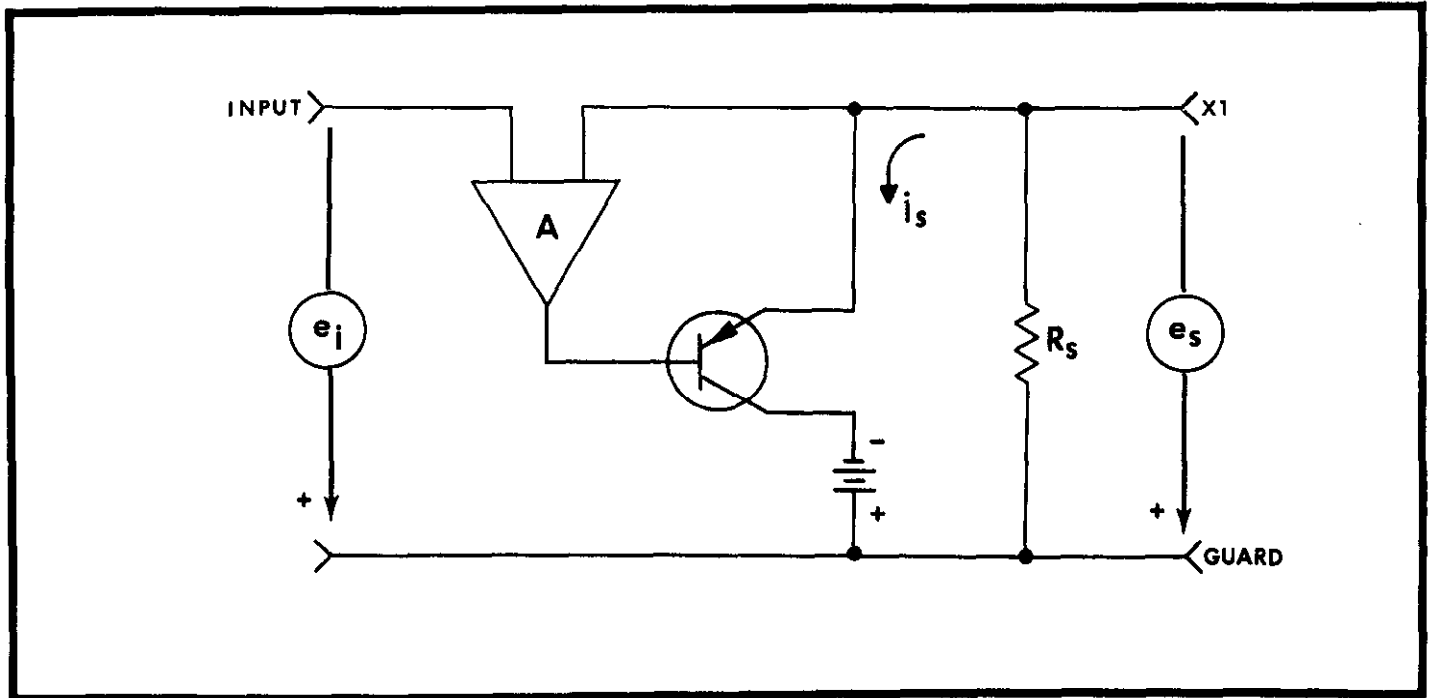

FIGURE 11. Unity-Gain Amplifier.
b. The Electrometer amplifier is connected as a unity-gain, voltage-to-current converter configuration. Refer to Figure 11 for a simplified diagram of the unity-gain amplifier in the Normal Mode. The Sensitivity selection circuitry is arranged such that a full-scale input voltage (e_i) results in a 1 milli-ampere output current through the Sensitivity resistor represented by R_s . The unity-gain voltage output (e_o) is determined as follows:
3. X1 OUTPUT (J1203). This output is the unity-gain output as shown in Figure 11. The X1 Output provides a voltage e_s which is equal to the input according to the following ratio.